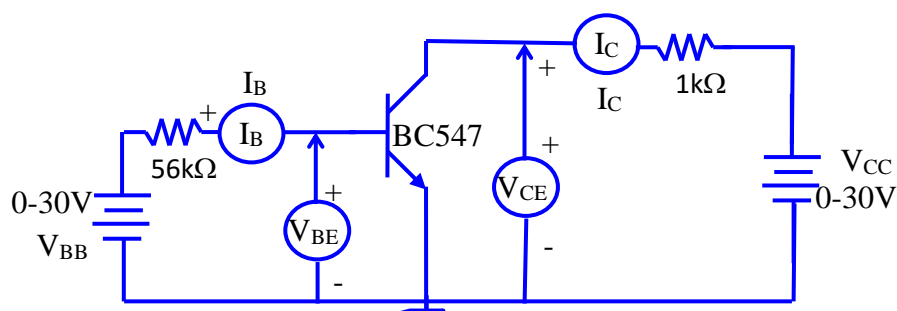

Fig.10.1 CE transistor configuration
- (a) Connect the circuit as in Fig. 10.1.